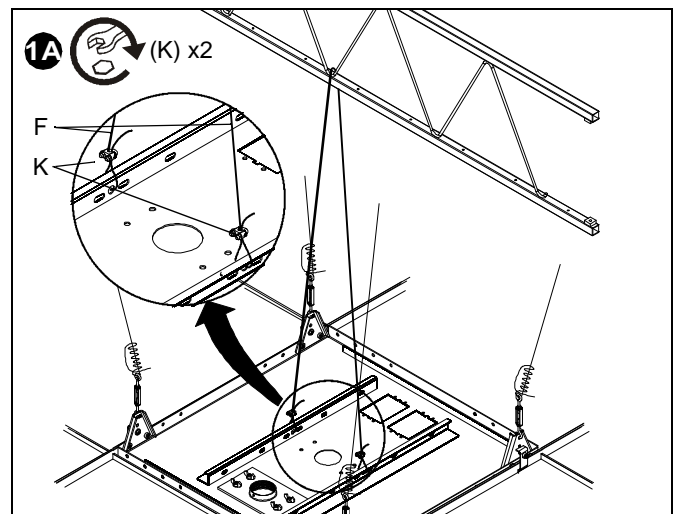
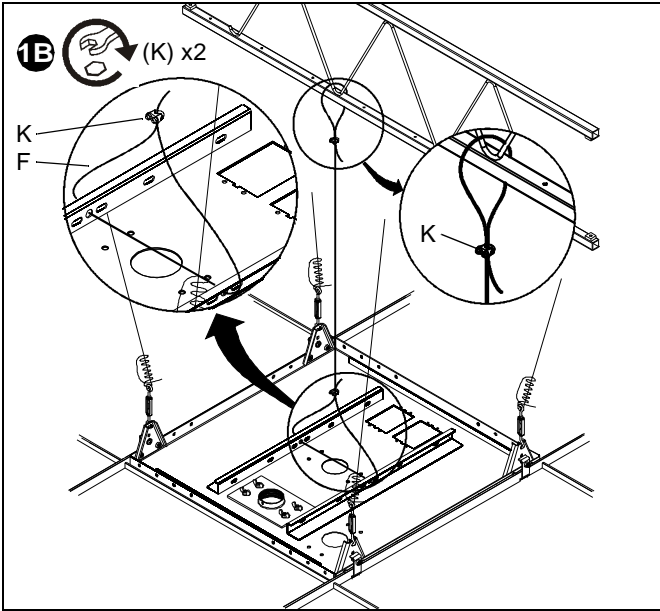

Figure 13
Figure 14
- A. For ceiling structure less than 4' (1.2m) from ceiling tray (A) (See Figure 13):
- Attach one end of cable (F) to channel in tray (A). Secure with clamp (K).
- Route opposite end of cable (F) over truss, and attach to opposite channel in tray (A). Remove cable slack and secure with clamp (K).
- B. For ceiling structure from 4 - 7' (1.2 - 2.1m) from ceiling tray (A) (See Figure 14):
- Route one end of cable (F) over truss and secure to itself with clamp (K).
- Route opposite end of cable (F) through *both* channels in tray (A). Remove cable slack and secure to itself with clamp (K).
- C. For ceiling structure more than 7' above tray (A):
- Attach cable to tray (A) per step 1.A. or 1.B. above.